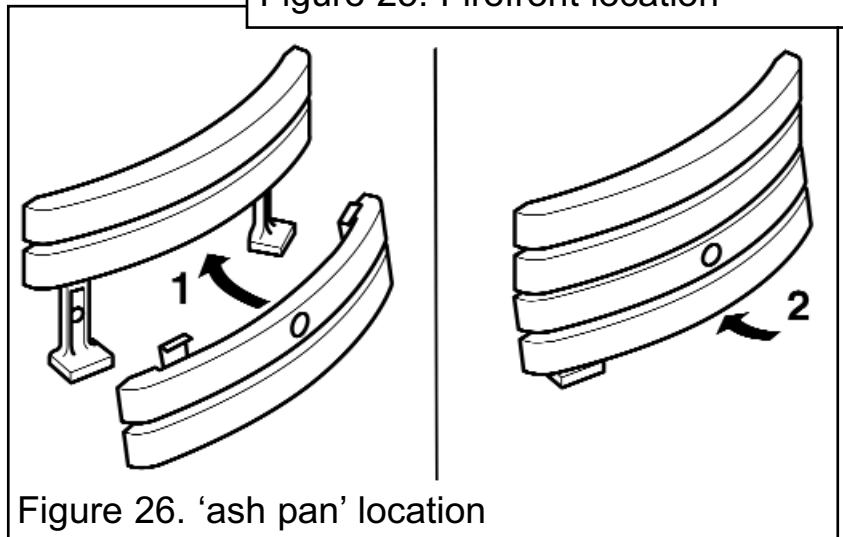

Figure 26. 'ash pan' location
4. The 'ash pan' casting should be located as in figure 26.